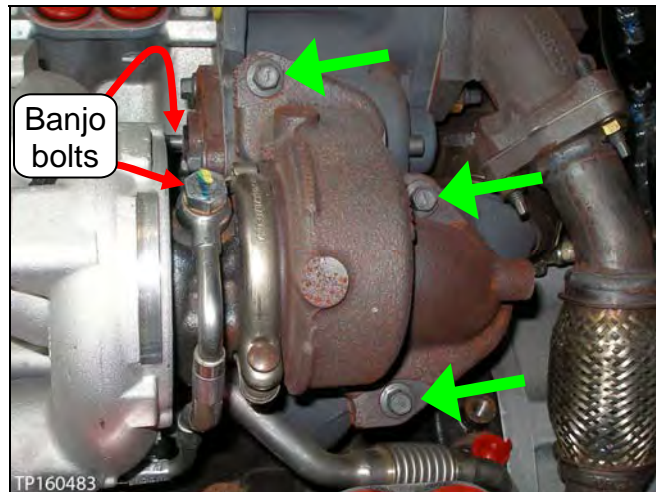

Figure 61
- c. Loosely install the three (3) bolts (see Figure 61).
6. Remove the tape, and then install both banjo bolts finger tight with new copper gaskets (see Figure 61).